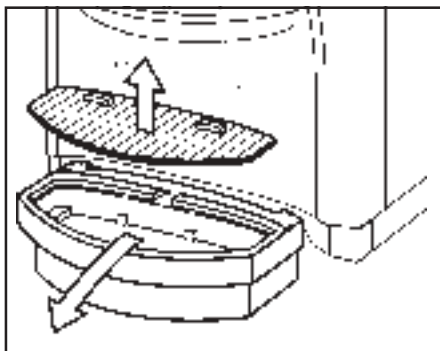

Fig 7: Removing the drip tray
1. Remove the drip tray (see fig. 7).